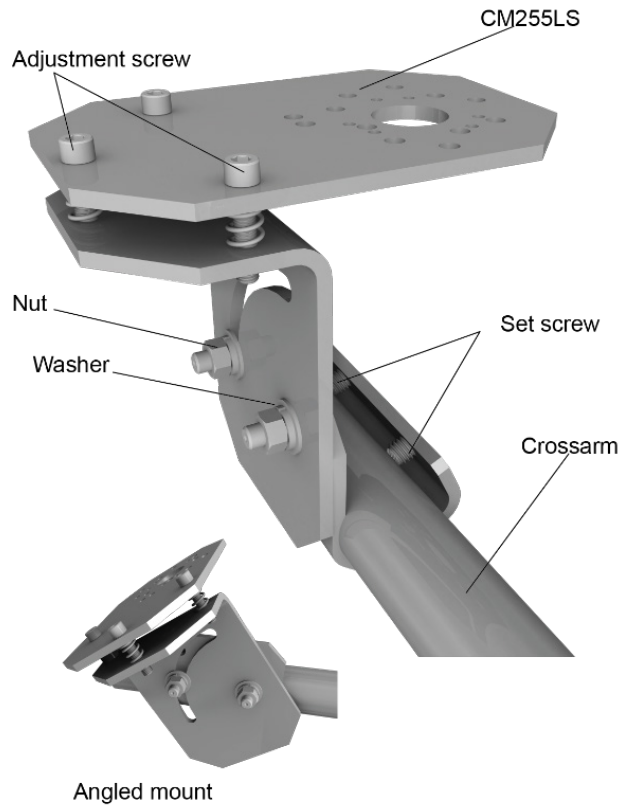

FIGURE 6-4. CM255LS
5. The CM255LS bracket (FIGURE 6-4) uses two set screws to secure the crossarm or the pole in the channel at the base of the bracket. For pyranometers mounted horizontally, ensure the mounting bracket is horizontal in two dimensions. For pyranometers to be mounted at an angle with the CM255 or CM255LS, set the mounting bracket angle to the desired angle prior to tightening the mounting hardware.